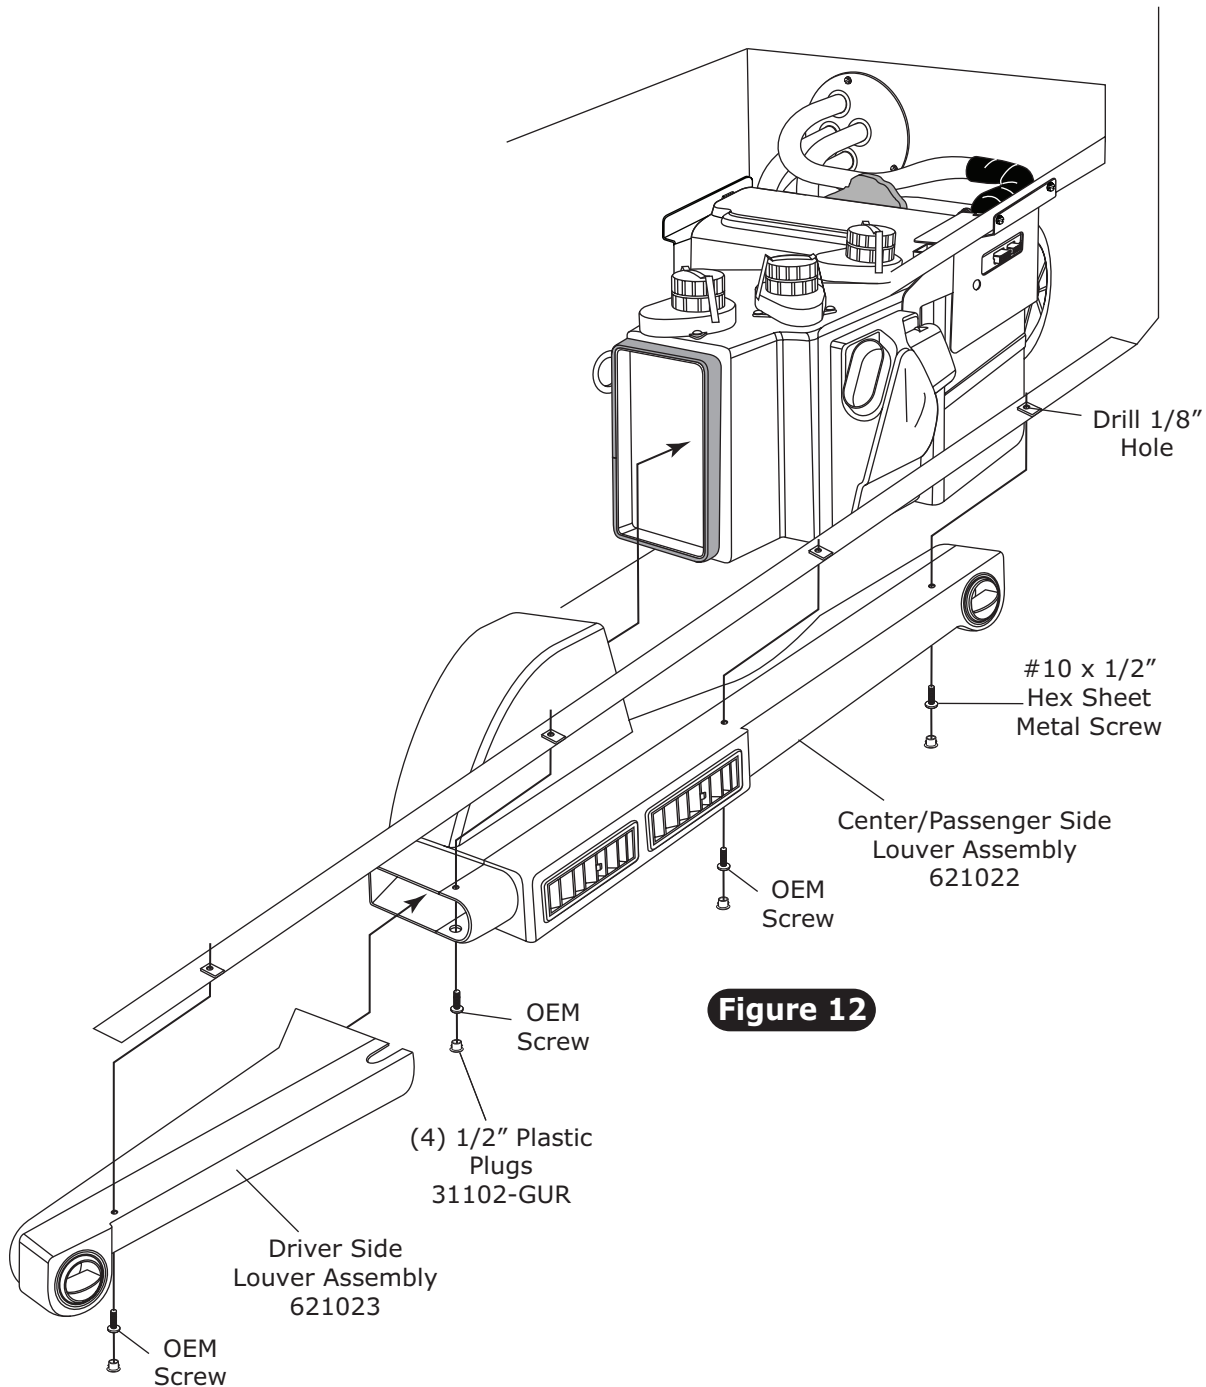

Figure 12
1. Install center/passenger side louver assembly onto evaporator, and secure to bottom of dash using (2) OEM screws as shown in Figure 12, below.
2. Install driver side louver assembly onto center/passenger side louver assembly, and secure to bottom of dash using OEM screw as shown in Figure 12, below.
3. Drill 1/8" hole in bottom of dash through existing hole in right side of center/passenger side louver assembly as shown in Figure 12, below. Install #10 x 1/2" hex sheet metal screw into drilled hole as shown.
4. Insert (4) 1/2" plastic plugs into louver assemblies as shown in Figure 12, below.